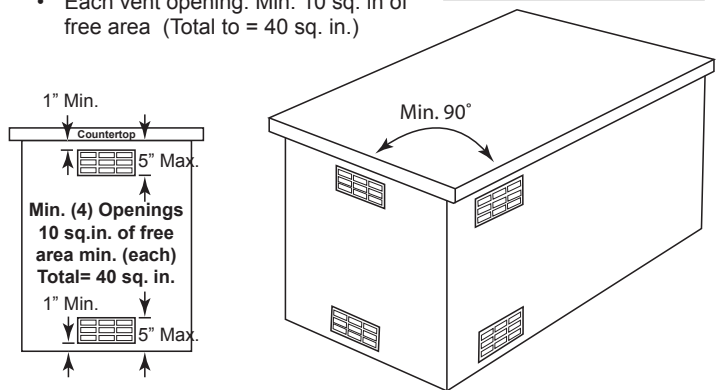

Figure 9
- Two openings should be in the side walls of the enclosure, at the top and spaced a minimum of 90° from each other. The openings should begin 1" or less below the countertop edge and end no more than 5" below the countertop edge. See Figure 9.
- **The openings must remain unobstructed:** The clearance between the openings and any items outside of the enclosure is a minimum of 6". The clearance between the openings and any items within the enclosure is a minimum of 2". This provides free flowing air inside and outside the enclosure to keep the island cool during operation of the grill. See Figure 9.